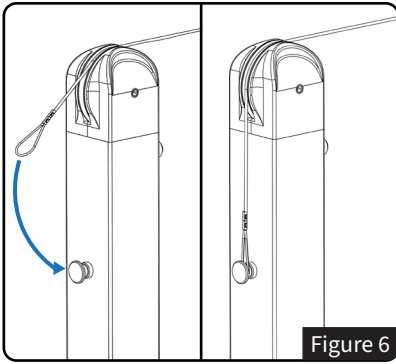
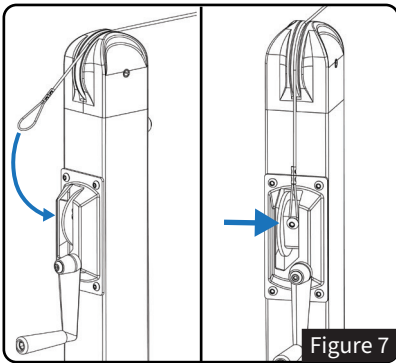

Figure 6
Figure 7
- Place one end of the top cord cable from the **Heavy Weight Net (Part D)** over the pulley on the **Hook Post (B)**.
- Loop the cable around the net hook on the back of the post. See *Figure 6*.
- Place the other end of the top cord cable over the pulley on the **Winder Post (A)**.
- Attach the cable to the screw on the crank and tighten the screw. See *Figure 7*.